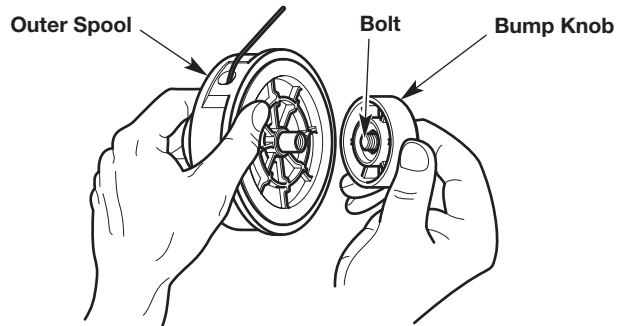

Fig. 26
1. Hold the outer spool with one hand and unscrew the bump knob clockwise (Fig. 26).